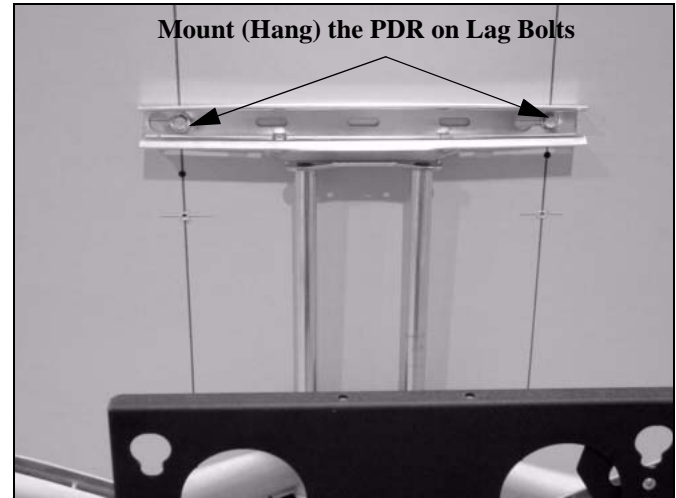

Figure 2: Mount PDR on Lag Bolts
1. With an assistant, lift and hang the PDR on the two lag bolts and washers previously installed on the wall. (See figure 2)